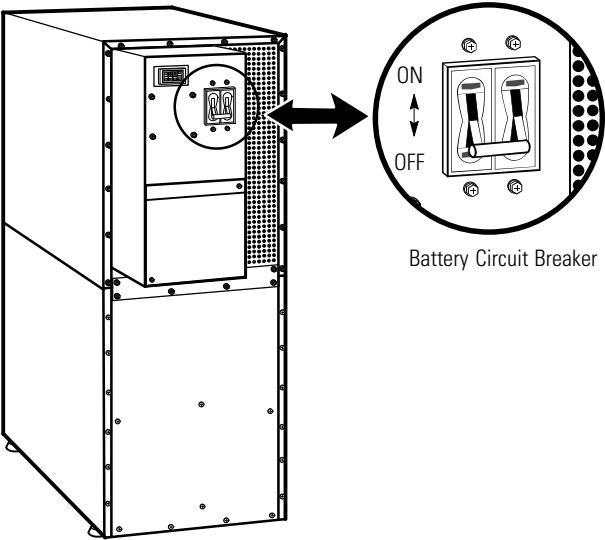

Figure 5. UPS Rear View (Eaton 9155 UPS Shown)
- 7. Verify that the UPS battery circuit breaker is in the OFF position (see Figure 5).